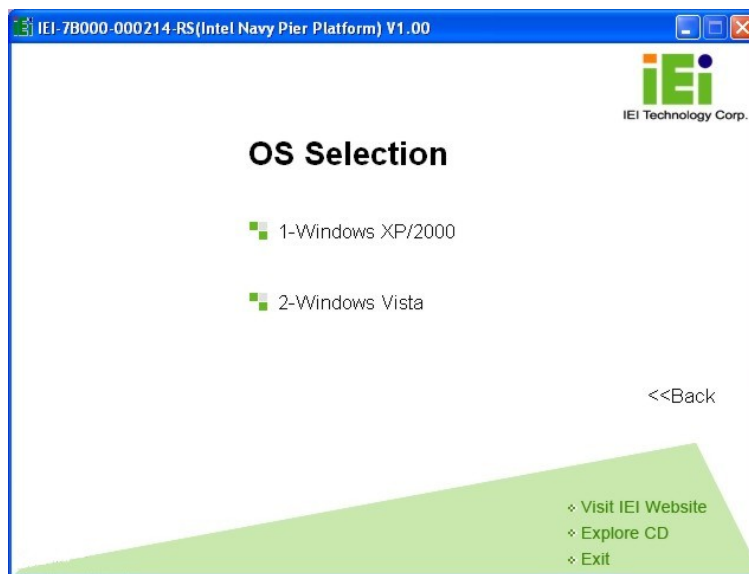

Figure 7-2: Select Operating System
Step 4: The screen in Figure 7-2 appears.